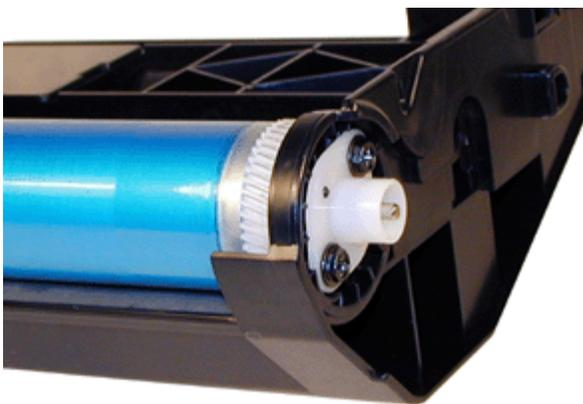

FIGURE 17
14. Install the drum, axle pins, and screws. Make sure that the metal axle pin is on the double gear side, and the white plastic pin is on the single gear side. See Figures 17 & 18.